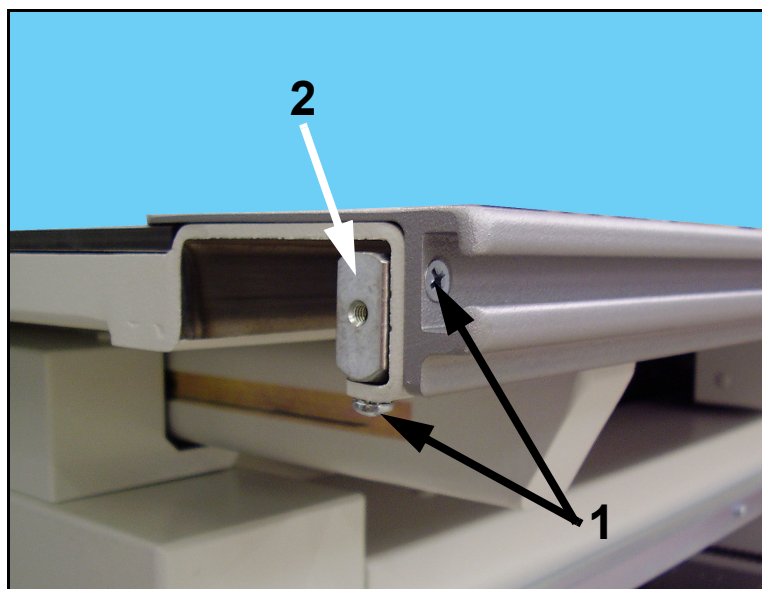

Figure 6-24. Bumper Removal
- 2 Unscrew the bumper screws (1 in Figure 6-24) and remove the bumpers (2) from all four corners of the table.